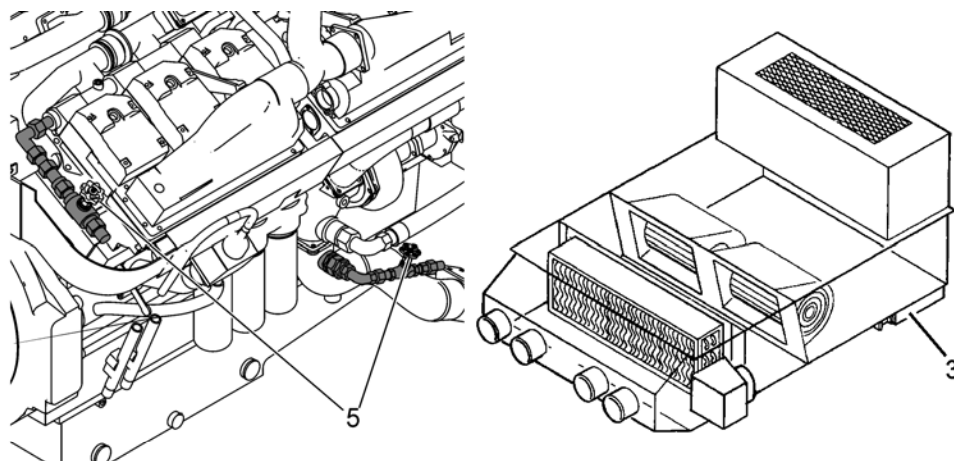

Fig. 5-67 Heating system
- Do not operate the machine, even briefly, without these filters, since the heat exchanger **2** will otherwise quickly become blocked (see Fig. 5-67).